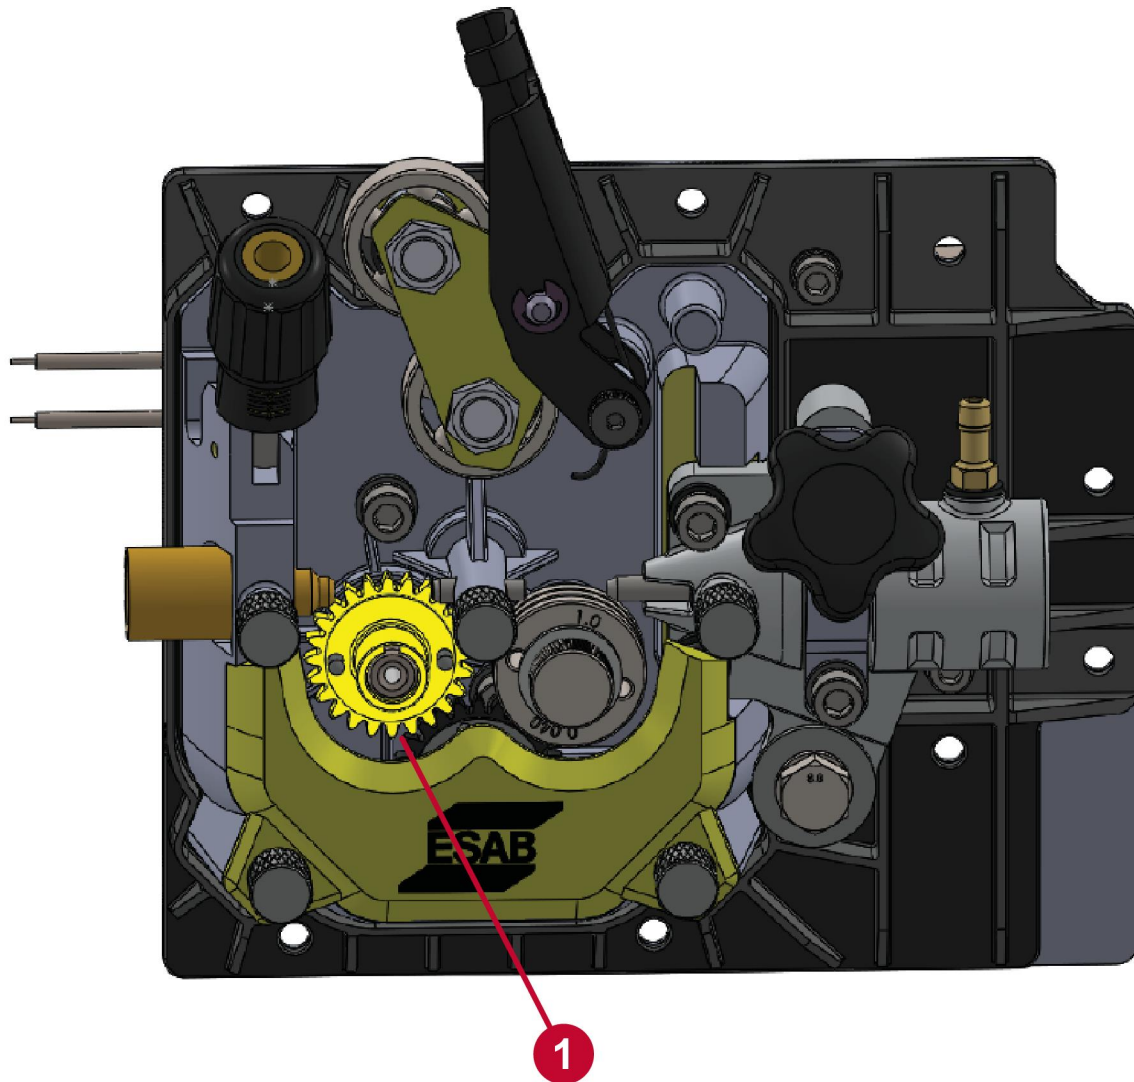

Figure 15. Drive gear with woodruff key on motor shaft
6. Remove the two wire-feed rollers by removing their thumb screws and sliding each roller from their shaft (see Figure 15 and 16).
Avoid removing drive gear (see (1) in Figure 15). (Risk losing drive-shaft woodruff key.)